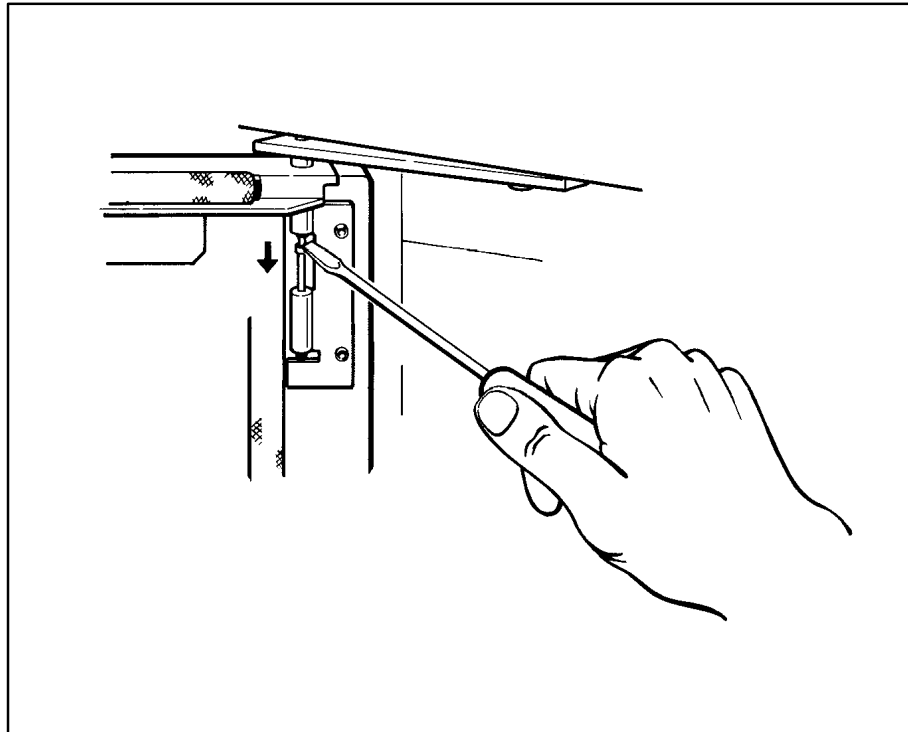

Figure 7 Pressing the spring loaded pivot to its lower position
2. Press the upper spring loaded pivot to its lower position with a screw driver as shown in figure 7.
4. Press down the upper springloaded pivot by using a screw driver as shown in figure 7.